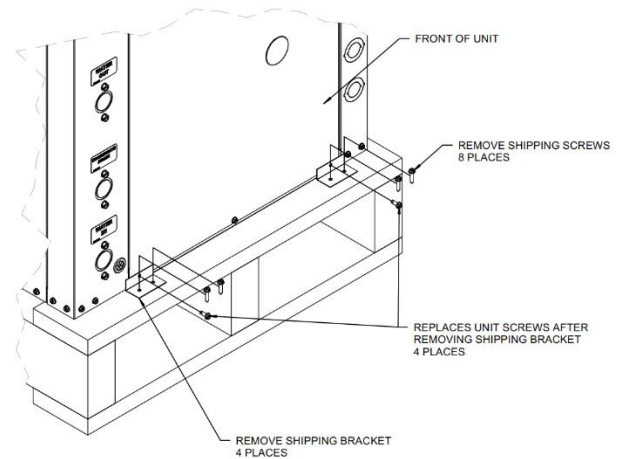

FIGURE 3– Standard Packaging with Brackets
- 9) Ensure that the shipping screws are removed from the unit. Refer to **FIGURE 3 – Standard Packaging with Brackets** for more information.